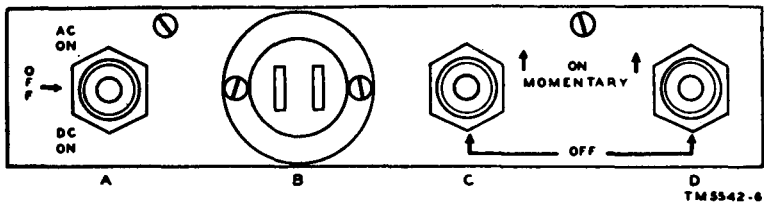

Figure 4. Control panel.
(fig. 4)
a. *AC ON-DC ON-OFF Power switch* (A, fig. 4). This switch is used to turn power on or off for a-c or d-c operation. When the switch is in center position, power is off. When the switch is thrown up to the AC ON position, 110 volts ac (alternating current) are applied to the lamp circuit. When the switch is flipped down to the DC ON position, d-c voltage is applied to the lamp circuit by Battery BA-419/U.
b. *ON MOMENTARY-OFF Switches*. The germicidal-lamp switch (C, fig. 4) or the black-light-lamp switch (D, fig. 4) is thrown upward to turn on the associated lamp. The lamp will not light unless the AC ON-DC ON-OFF switch is in either AC ON or DC ON position, as required.
c. To turn on the germicidal lamp, push the associated switch (C, fig. 4) upward, hold it up for a few seconds, and then let it return to normal position. When the lamp is on, a flash of red-violet light will be seen at the bottom of the short-wave filter in front of the lamp. The flash soon diffuses, and the entire filter glows with a deep blue-violet hue. To turn on the black-light lamp, push the associated switch (D, fig. 4) upward, hold it up for a few seconds, and then let it return to normal position. The lamp should flicker briefly and then glow with a steady deep-violet hue.